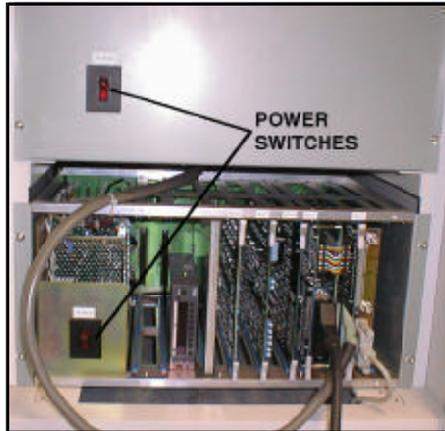
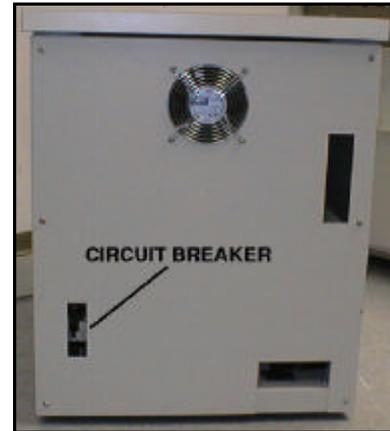

Figure 3-1. Controller power switch.
Figure 3-2. Circuit breaker switch.
- 4) After verifying both power switches behind the controller main body front door are in the **Off** position, Figure 3-1, and the accessory vacuum pump power is **Off**, turn **On** the circuit breaker, Figure 3-2, which is mounted at the lower rear section of the main body. If unusual odor, sound, vibration, or other abnormality is encountered, immediately turn **Off** the circuit breaker and contact an MSC/Rigaku service technician.